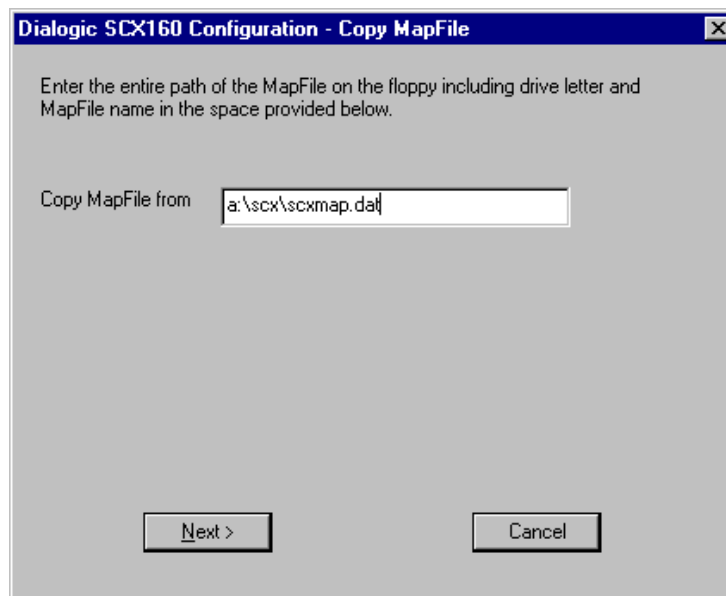

Figure 45. Enter MapFile Path Window
8. *Figure 45. Enter MapFile Path Window* opens and the user is prompted to enter the entire path of the MapFile, including the disk drive letter of where to copy the file from (i.e., **a:\scx\scxmap.dat**).